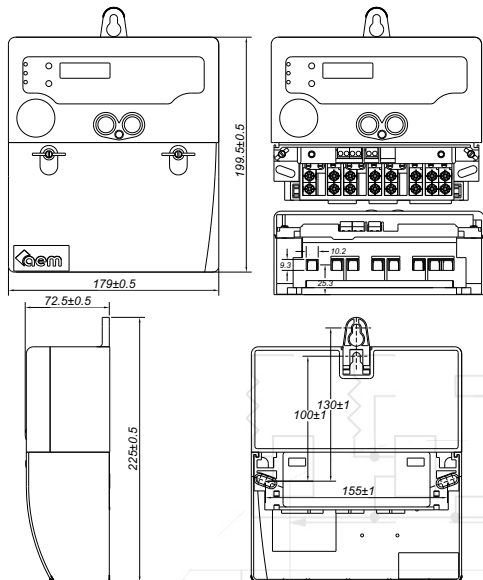

Fig. 2
- Overall dimensions: as shown in fig. 2
- 3 points mounting dimensions: as shown in fig. 2